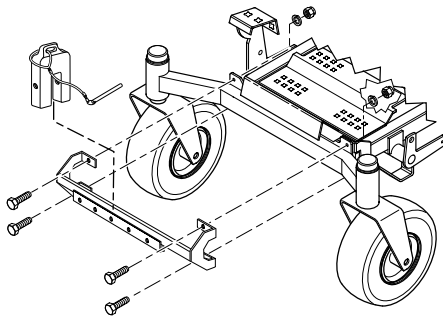

FIGURE 3-8
16. Using the weight support bar as a guide, identify the four corresponding mounting holes, and the existing hardware that will need to be removed in order to secure the weight support bar to the front of the machine as shown. See Figure 3-8, Page 4.
17. Install one 7/16-14 x 1-3/4" hex head bolt into each of the four mounting holes in the weight support bar, and through the matching holes in the caster support weldment. Secure this assembly to the front of the machine using the 7/16 - 1/2" x 1-1/4" x .083" flatwashers, and the 7/16-14 elastic stop nuts. Torque hardware to 59 ft. lbs. See Figure 3-8.